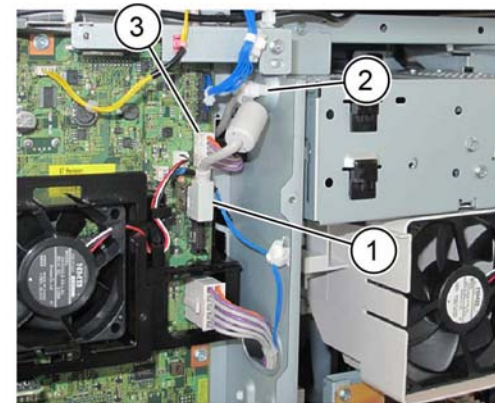

Figure 7 USB cable
10. Disconnect the connection between the connector and the USB Cable, Figure 7:
- a. Disconnect the USB cable (1).
- b. Release the USB cable clamp (2).
- c. Disconnect the connector (3).